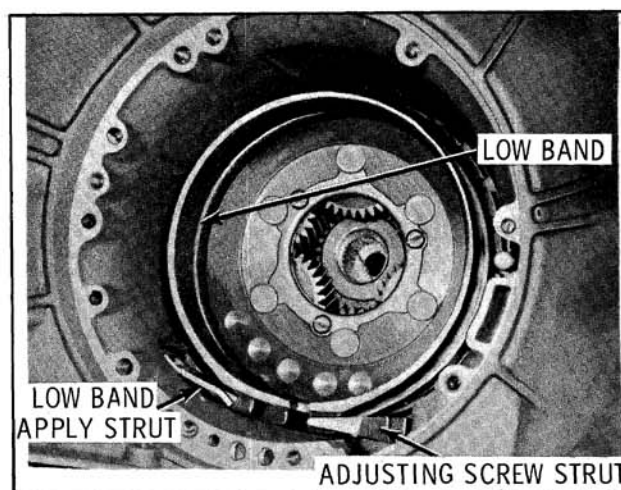

Fig. 6-364 Removing Low Band
1. Remove low band and struts from inside the case. (Fig. 6-364)